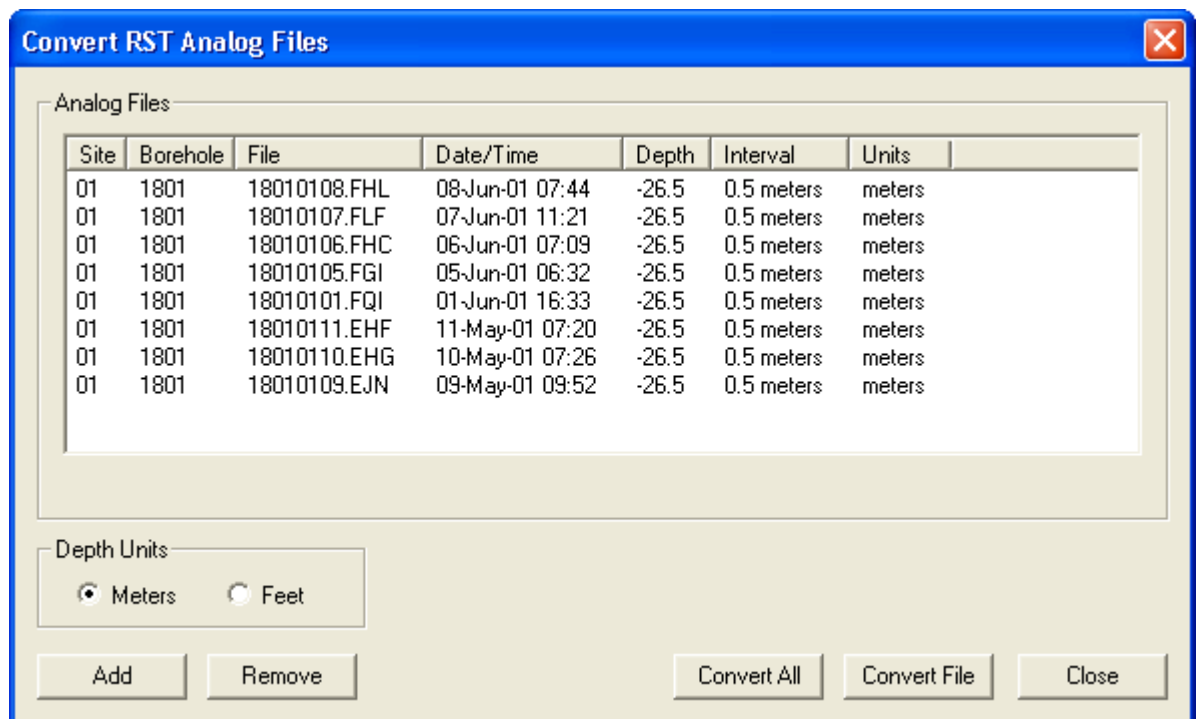

FIGURE 10-2 ADDING ANALOG FILES
- 7 Press the **Add** button to select the analog files. Navigate to the appropriate directory where the analog files are placed (most likely in the borehole directory you just created). Select a single file or multiple files by using the Ctrl or Shift buttons. Press **Open** when complete. You will be returned to the screen as shown in Figure 10-2.